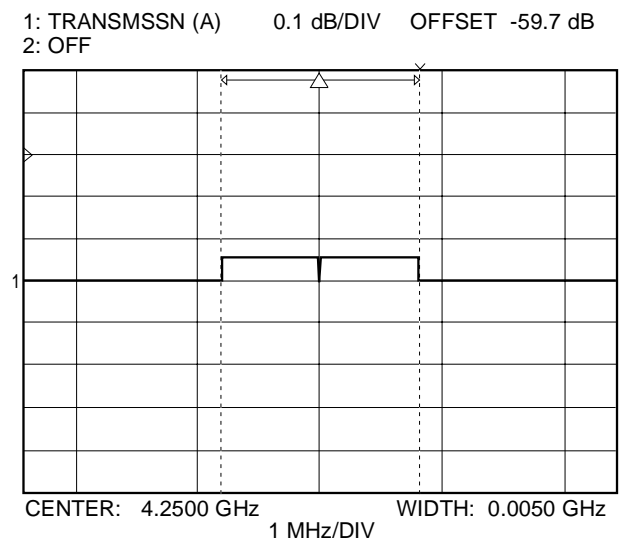

Figure 6-5. Typical 25 MHz Marker Display
Step 10 The 25 MHz marker waveform should be displayed on the 54XXA screen as shown in Figure 6-5. The waveform should have a displayed width between 1.0 MHz and 2.0 MHz. Use the cursor and delta cursor to measure the width of the markers, as necessary.